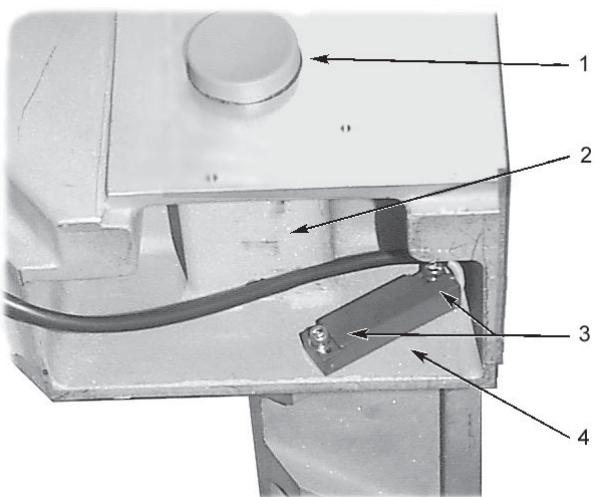

Fig. 14 Tilt switch
6.22 To adjust the tilt switch (item 4, Fig. 14) proceed as follows:
- vi On the hand control, press the break (extension) button and check for movement of the short trunk section of the table top. If movement occurs, adjust the tilt switch by releasing the adjusting screws (item 3, Fig. 14) and moving the tilt switch in the appropriate direction to stop any movement of the short trunk section with the table top in the reverse Trendelenburg position.
- v Remove two screws (item 3, Fig. 14), shakeproof washers and plain washers which secure the tilt switch (item 4, Fig. 14) to the short trunk assembly and remove the tilt switch.